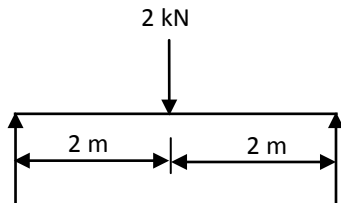
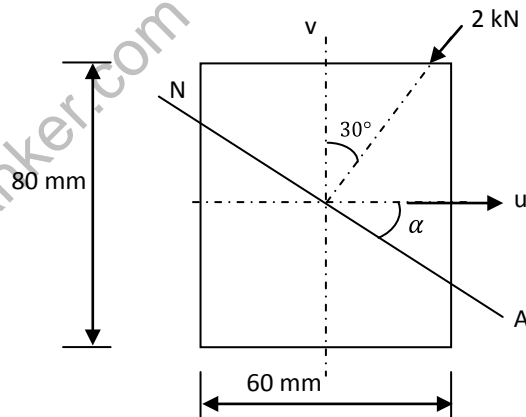

Figure: 1a
Figure: 1b
- 10 A beam is loaded as shown in figure 1a and figure 1b. Determine the maximum deflection and stress at B. Take $E = 210$ GPa.